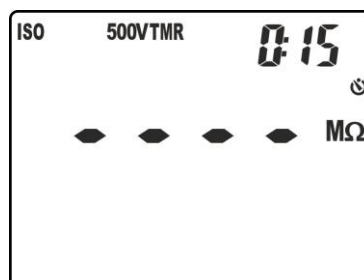

Fig. 20: Setting the measuring time in TMR mode
5. Press keys **▼/⚡** or **▲/ZERO** to select the measuring time (timer) choosing among the options: **15s, 30s, 1min, 5min, 10min**. Please note the value in the top part of the display on the right (see Fig. 20).
5. Press keys **▼/⌘** or **▲/ZERO** to select the measuring time (timer) choosing among the options: **1min** (for DAR measurement) or **10min** (for PI measurement). Please note the value in the top part of the display on the right (see Fig. 20).